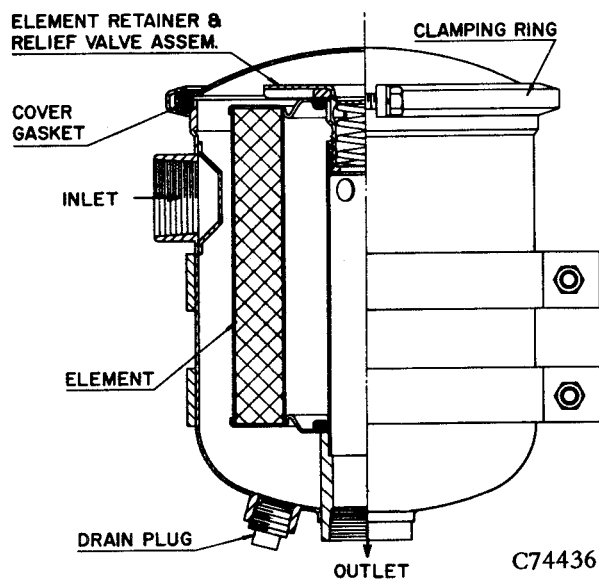

FIGURE 3-3. — COMPRESSOR OIL FILTER
**COMPRESSOR OIL FILTER** (Figure 3-3) is a vital part in maintaining a trouble-free compressor, since it removes dirt and abrasives from the circulated oil. The filter is a replaceable paper element type and is equipped with an 18-21 PSI relief valve that opens in the event the element becomes dirty enough to block the flow of oil. **Element must be replaced every 1000 hours**, or when pressure drop is 15 PSI. More frequent changes improve the system reliability and are recommended.